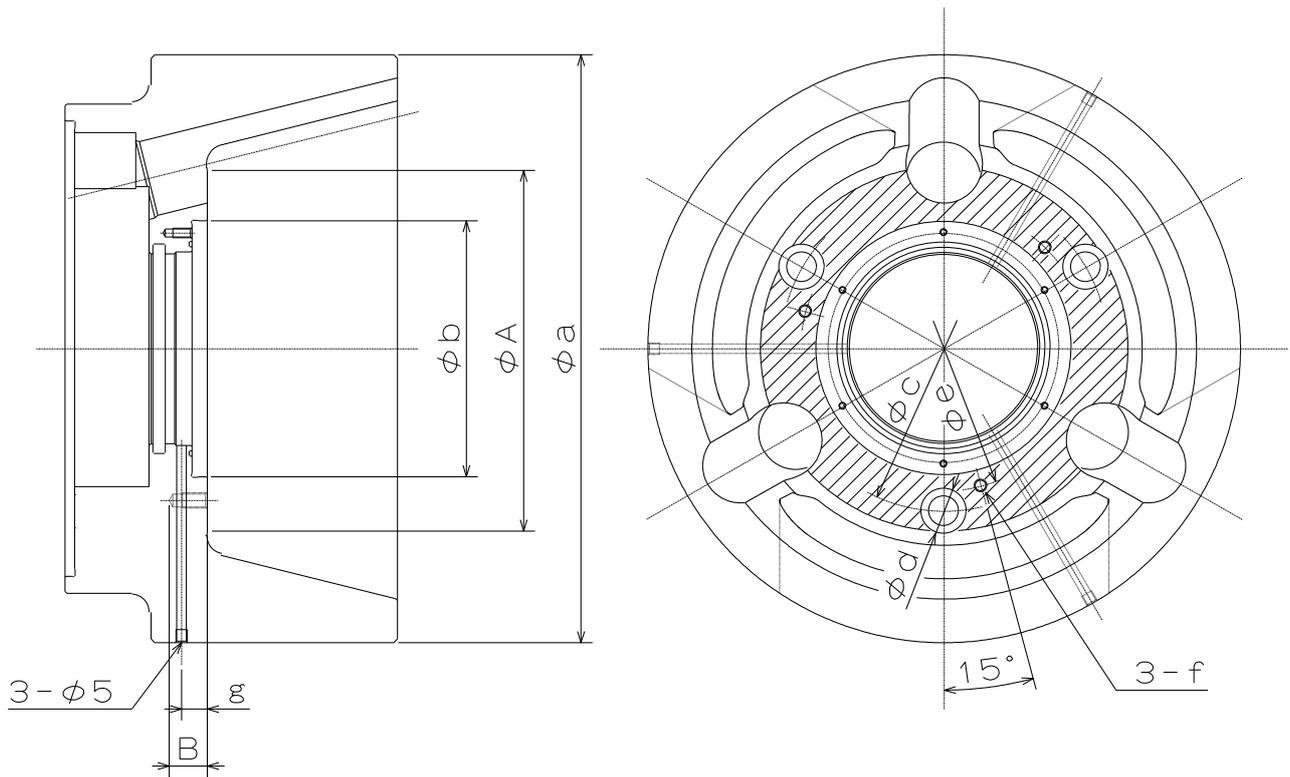

Fig.7
- In the case of attaching the locator and the jig on the chuck body surface, tap or drill a hole in the additional process range specified in Fig. 7